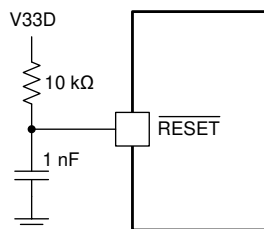

Figure 39. $\overline{\text{RESET}}$ Pin With R-C Network
- If an application does not use the $\overline{\text{RESET}}$ signal, the $\overline{\text{RESET}}$ pin must be tied to V33D, either by direct connection to the nearest V33D pin (Pin F10), or by a R-C circuit as shown in Figure 39. The R-C circuit in Figure 39 can be also used to delay reset at power up. If an application uses the $\overline{\text{RESET}}$ external pin, the trace of the RESET signal must be kept as short as possible. Be sure to place any components connected to the RESET signal as close to the device as possible.